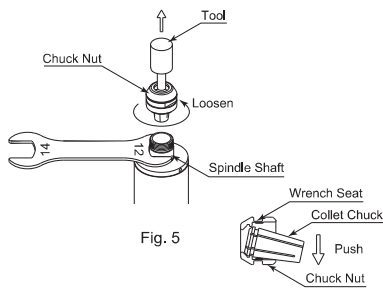

Fig. 6
- 2 The collet chuck and chuck nut are held together by a groove in the collet chuck and a flange in the chuck nut. To remove the collet chuck hold the chuck nut in one hand and push diagonally down on the collet chuck. The collet chuck should pop out. (Fig. 6)
- 3 Install the new collet chuck in the chuck nut by positioning the collet in the chuck nut and pressing down on a flat surface. (Fig. 6)